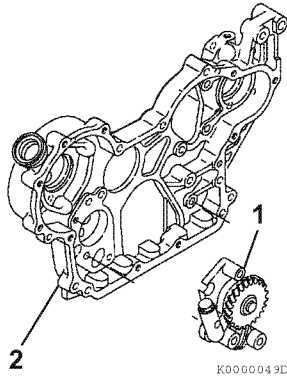

Figure 9-13
2. Remove the oil pump assembly bolts. Remove the oil pump assembly (**Figure 9-13, (1)**) from the gear case housing (**Figure 9-13, (2)**).